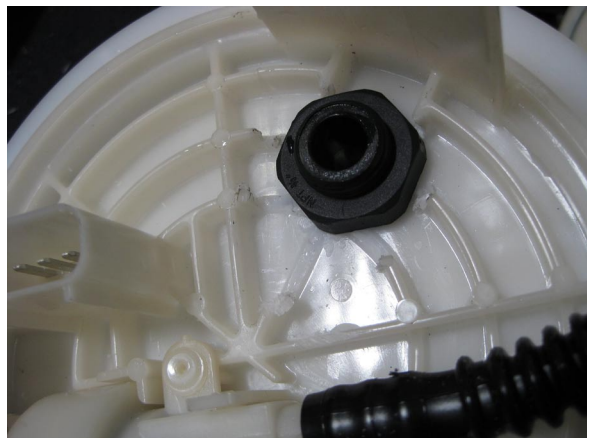

Fig. ag7
- AE. Insert the bulkhead through the top of the lid and secure it by installing and tightening the bottom nut as seen in fig. ag7.